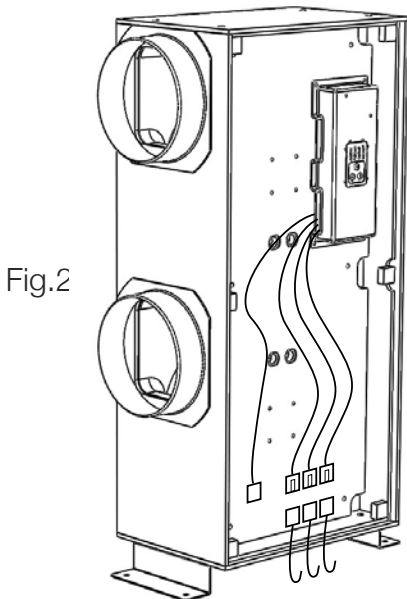

Fig.2
- b) Connect to the volt free boost if required (non-remote control versions only). The connection is located behind the rear panel on the fan unit. (See fig.2). Orientation not important. Closed to boost.